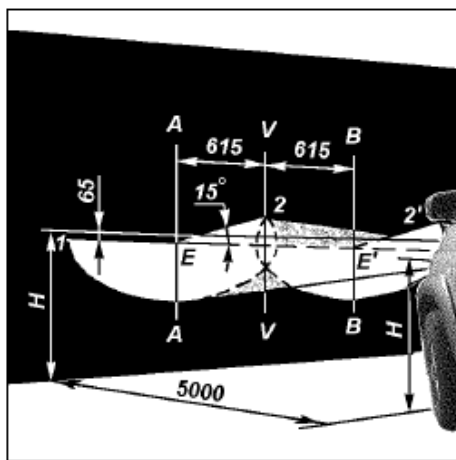

Fig. 9.28. Marks of a screen for adjustment of headlamps:
1. Park the motor vehicle, which should have a full fuel tank, its curb weight, normal tires pressure and loaded driver's seat 750 N (75 kgf), on an even level ground 5 meters far from the screen with special markings (Fig. 9.28).